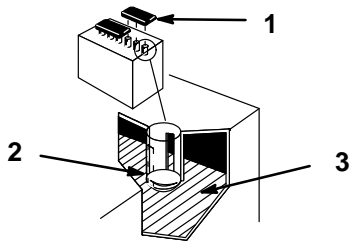

Figure 14
2. Open covers to see into the cells. Slowly pour electrolyte into each cell until the level is up to the lower part of the tube (Fig. 14).
5. Slowly pour electrolyte into each cell until the level is once again up to the “UPPER” line on the battery case (Fig. 14).